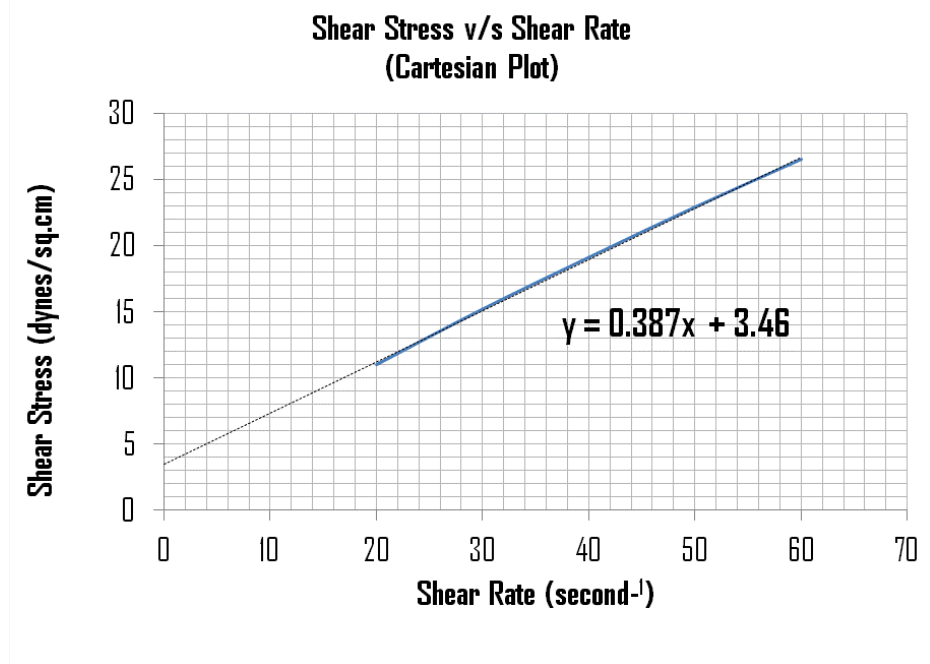

Figure 2
- 3) Given that you have a fluid with the following rheological properties shown in **Figure 2** below,